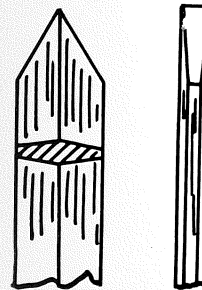

FIG. 277
The parting tool is used for two purposes: (1) for taking sizing cuts which serve as a guide in turning to size, and (2) for cutting off operations. Figure 277 shows the proper tool shape. The parting tool is a double wedge, wider at the center to provide clearance. The point is ground so that the cutting edge is on the *exact* center line of the tool. Grind the tool so that the sides are straight or slightly hollow-ground, then hone carefully. The cutting angle should be about 60°.